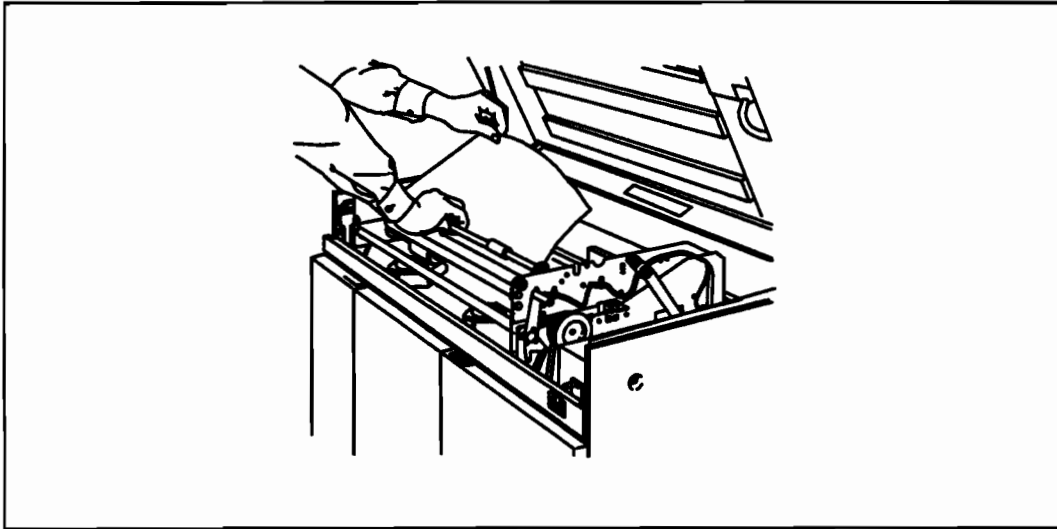

Figure 3-26. Routing the Media
13. Route the media between the the pinch roller and the media feed roller assembly. Swing the feed roller assembly back against the media. See Figure 3-26.